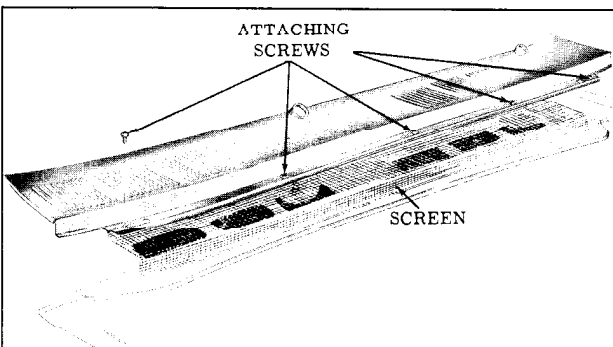

Fig. 11-21 Cowl Vent Grille
2. Raise hood and remove cowl vent grille to cowl screws. (Fig. 11-21)